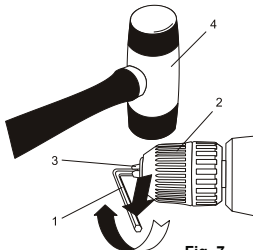

Fig. 7
- Insert a $\frac{5}{16}$ " (8 mm) or larger hex key (1) into the chuck (2) and tighten the chuck jaws securely (Fig. 7). Make sure each of the chuck jaws (3) is seated on the flat surfaces of the hex key.
- Tap the hex key sharply with a mallet (4) in a clockwise direction. This action will loosen the screw in the chuck for easy removal.